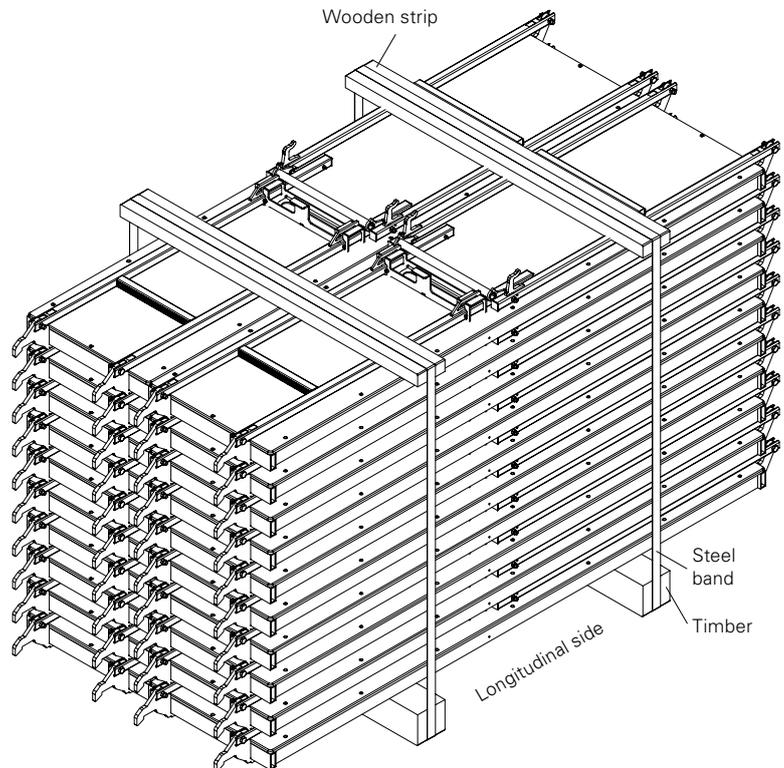

Fig. A2.01
- are picked up using the longitudinal side only. (Fig. A2.01)
- 2 decks (9) are positioned side by side and 10 decks are placed one on top of each other. The cams (9.12) must reach into the stacking pockets (9.13).
- (Fig. A2.01 + A2.01a)